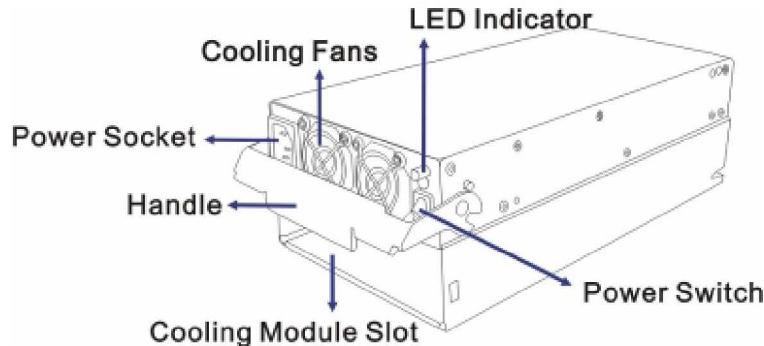

Figure 1-12: PSU
As shown in **Figure 1-12**, each PSU comes with a single power socket for power cord plug-in and a power switch on the right to turn the subsystem on and off. Two (2) embedded cooling fans provide sufficient airflow to keep the PSU cool. A single LED indicates the PSU status. When any power supply failure occurs, such as over-voltage or fan failure, the LED shines red. A handle at the back of the PSU enables you to remove the PSU from the subsystem while the subsystem is online. This should only be done if the PSU has failed and needs to be replaced.